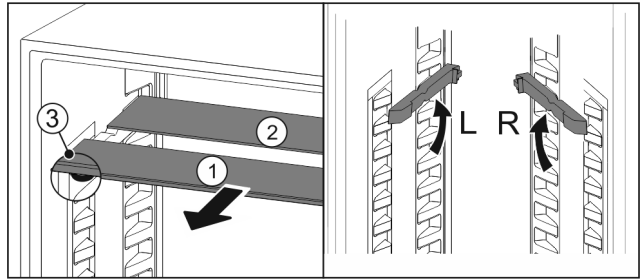

Fig. 80
- ▶ Pull the glass panels out Fig. 80 (1) from the front, one at a time.
- ▷ The glass panel Fig. 80 (1) and trim strip are at the front.
- ▷ The stops Fig. 80 (3) point down.